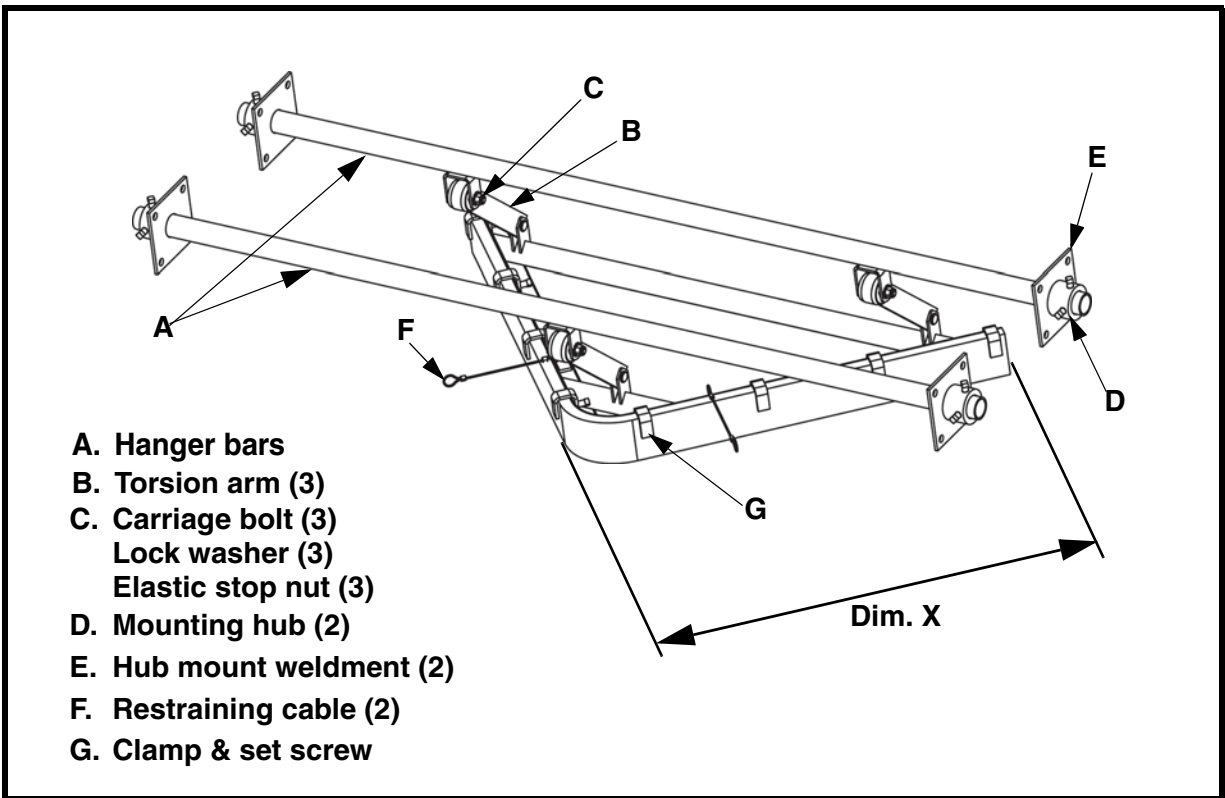
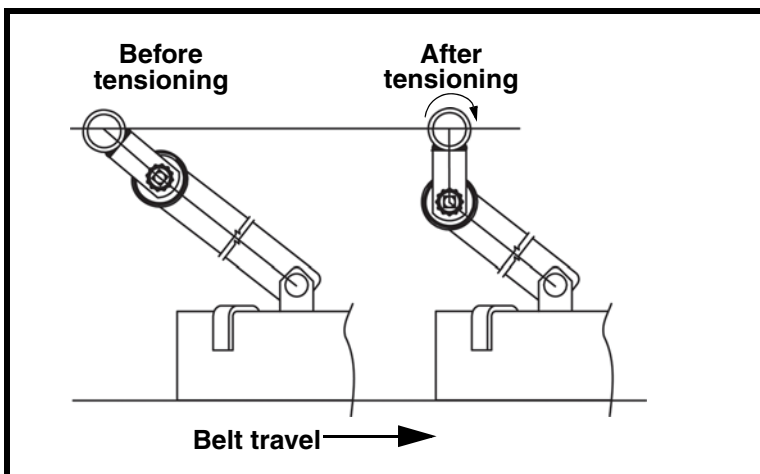

Figure 5. Installing Martin® Torsion V-Plow
Figure 6. Tensioning Martin® Torsion V-Plow
7. Insert hanger bars (A, Figure 5) through mounting holes. Attach each torsion arm (B) to the hanger bars with three carriage bolts, lock washers, and elastic stop nuts (C) loosely tightened.
8. Center blade on belt. Slide a mounting hub (D) onto the far side of each hanger bar, and up against bolt plate. Tighten the two set screws in each mounting hub.
9. See Figure 6. Push blade away from tail pulley until hanger bar tabs and torsion arm form a straight line as shown. Tighten elastic stop nuts to 95 ± 5 ft-lb ($13 \pm .7$ kgm)
10. Using a pipe wrench, rotate hanger bars in direction shown in Figure 6 until hanger bar tabs are at a 90° angle to the belt, and the blade is tight against belt but is not changing belt line. Make sure blade contacts belt evenly at all three corners.
11. Lock hanger bars in position by tightening the two set screws in each hub mount weldment (E, Figure 5).
12. Attach two restraining cables (F, Figure 5) to the conveyor stringers or steel plates as shown in Table III. Leave no more than 2 in. (51 mm) of slack in cables.